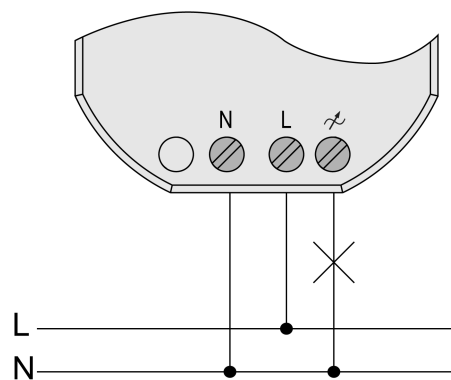

Figure 7: Connection of load
- Connect load as shown in the connection example (see figure 7).